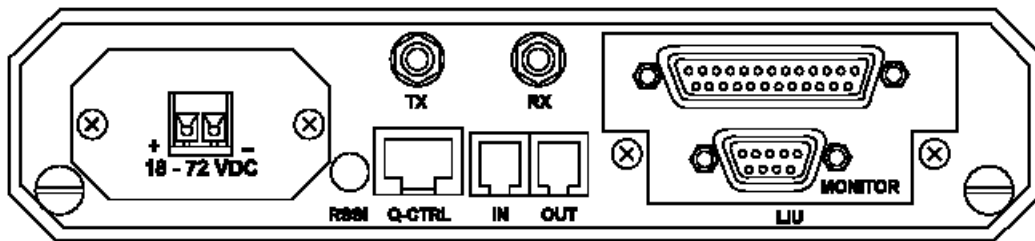

Figure 2-1. 2.048Mbps Wireless Modem Rear Panel Showing 48 VDC Connector
5. If you are using the 48 VDC model, open the two screws on the rear panel and slide out the board a few centimetres to allow easy access to the terminal block. Verify that the wires are securely connected and in the correct polarity according to Figure 2-1.